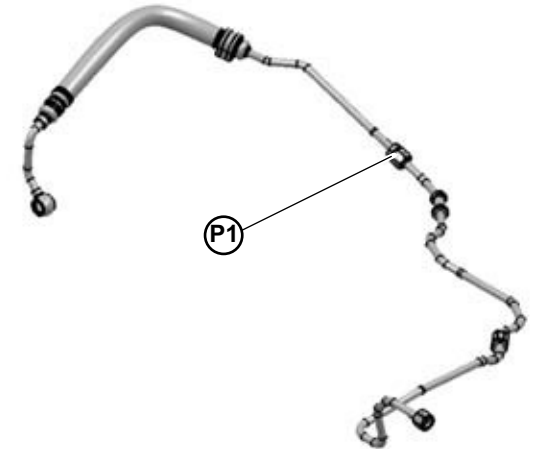

Fig.31
10. Remove both parts of the **P1** delivery pipe (Fig.31).